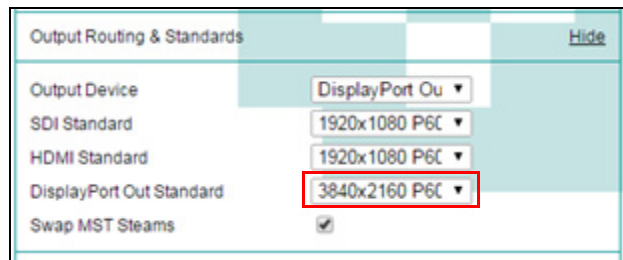

Figure 17: Output Routing & Standards
- Set the appropriate SDI/DisplayPort Out Standard to 3840x2160 P60 as shown in Figure 17.